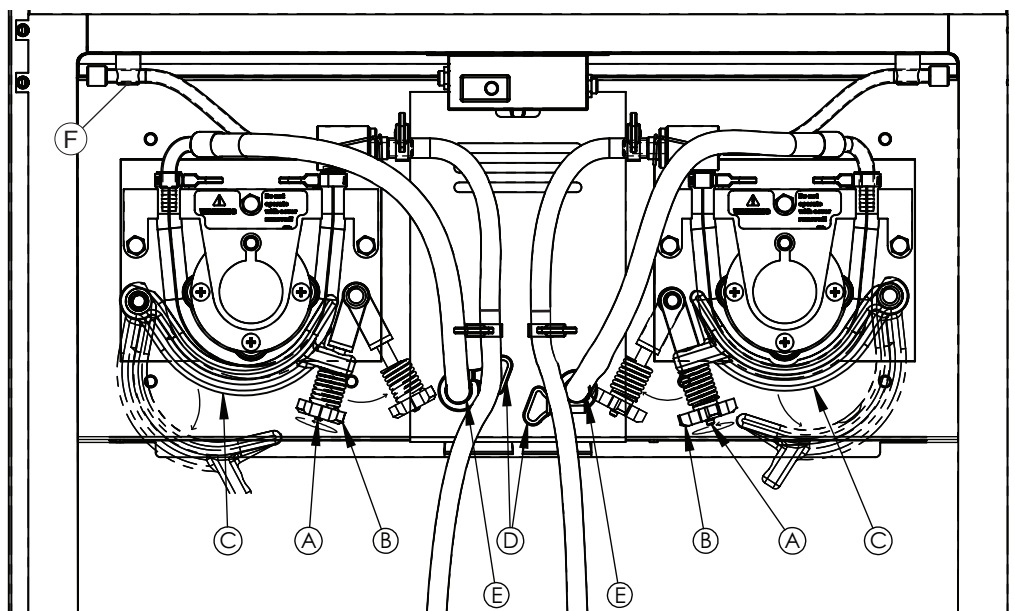

Figure 8-6 MTS
18. Refer to figure 8-6. Install the MTS hose assembly by first placing the clamp next to the braided hose, above the roller bearing support on the right side and push hose into slot. Place the transfer hose under the rollers. While holding the pickup tube stretch the hose so the left hand clamp is above the roller bearing support and push the hose into the slot.